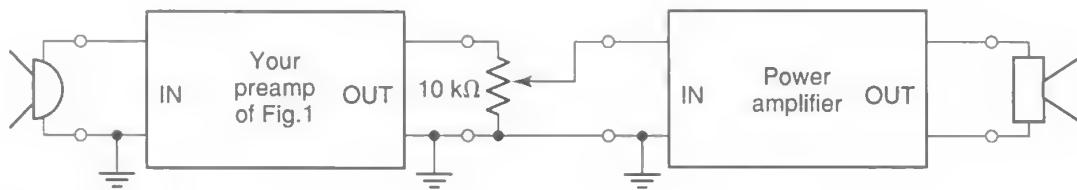

Fig. 3
9. You will now add a *volume control* to your sound system. To do so, you need to take the output of the preamplifier, and *divide down* its voltage by a factor that can be adjustable. The resulting voltage should then be fed to the input of the power amp. You can do this by using a $10\text{ k}\Omega$ potentiometer as a variable voltage divider, as shown in Fig. 3. (A $100\text{ k}\Omega$ potentiometer is also acceptable; why is the exact value of the potentiometer resistance not critical?) Try your new system by speaking into the microphone and varying the potentiometer. Does your volume control work?